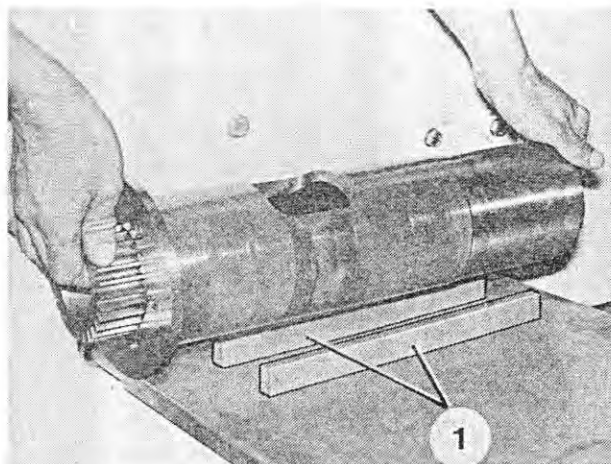

Fig. 181
8. When machines with a worm trough are used, place the rotary cylinder between the support sledges (Figure 181/1).
The rotary cylinder must only be placed in the support sledges (Figure 181/1).